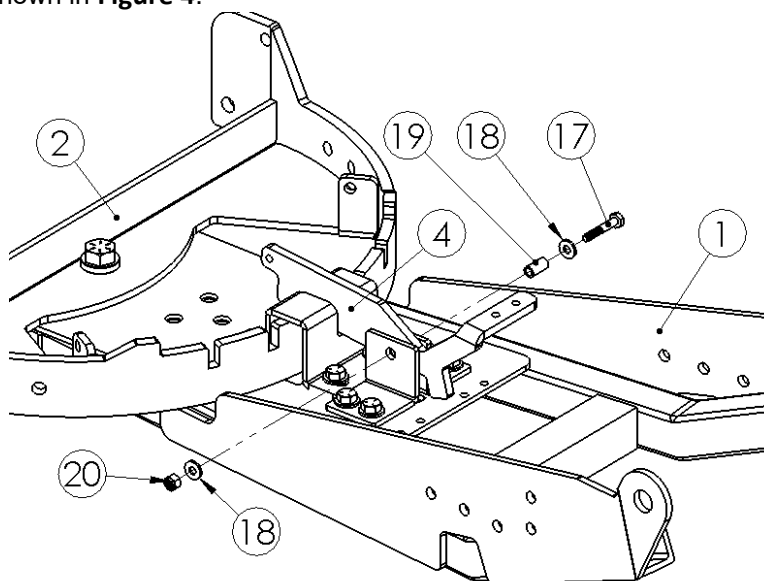

Figure 4
- 4) Attach the Pivot Lock Lever to the Pivot Lever Risers using the 1/4" x 1.5" Hex bolt, 1/4" Washers, 1/4" Aluminum Spacer and 1/4" Nylock Nut as shown in **Figure 4**.